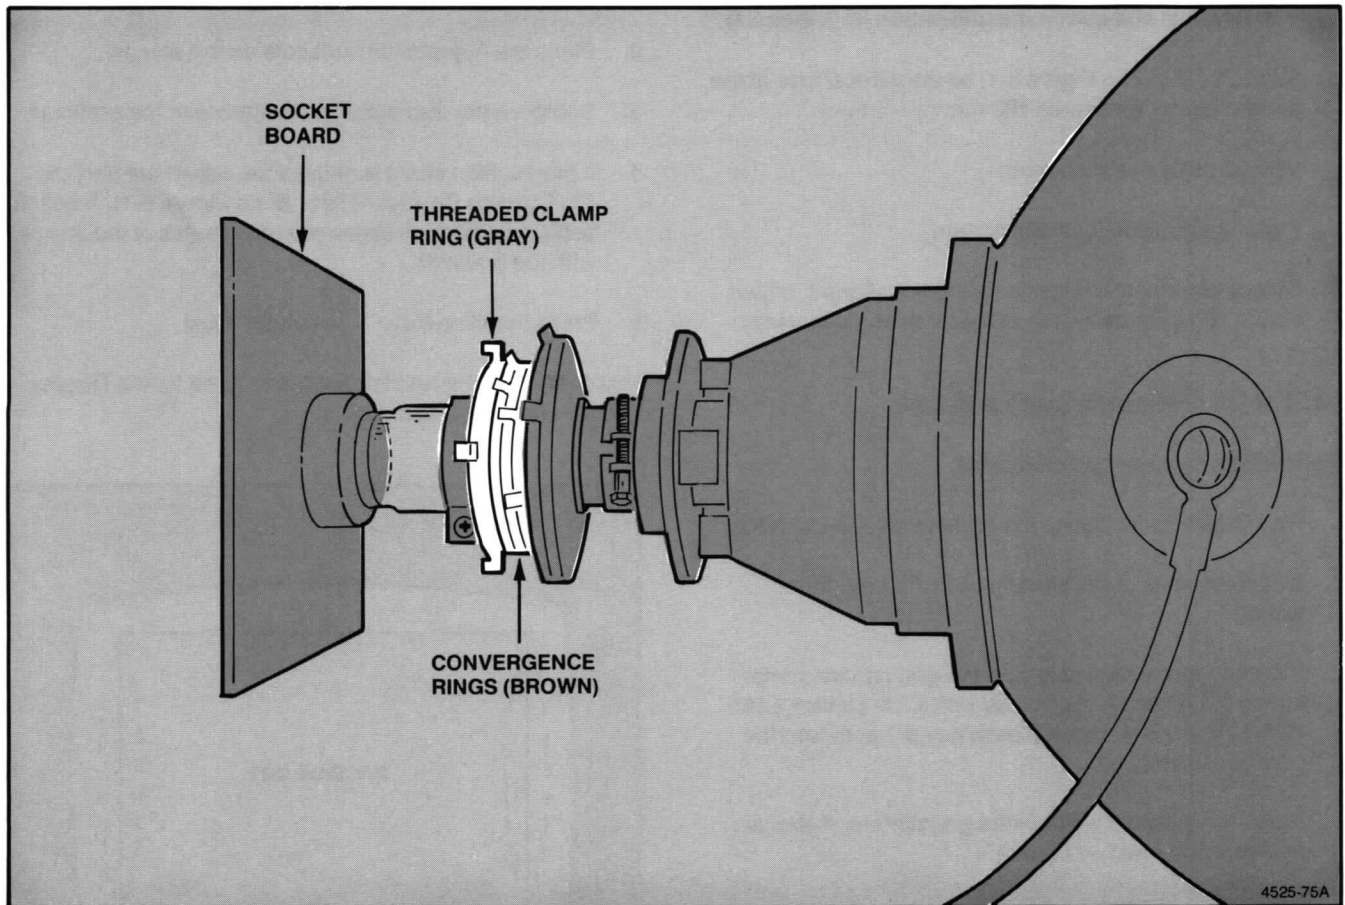

Figure 5-8. Convergence Rings and Threaded Clamp-Ring.
Scrape off the paint that fastens the rings to each other. Then loosen the threaded gray clamp-ring (Figure 5-8) to allow smooth movement of the convergence rings.
5. Match the red and blue images at the center of the screen by rotating the four-pole magnet (the center pair of convergence rings, on the neck of the CRT). See Figure 5-8.
11. Retighten the gray clamp-ring in Figure 5-8.